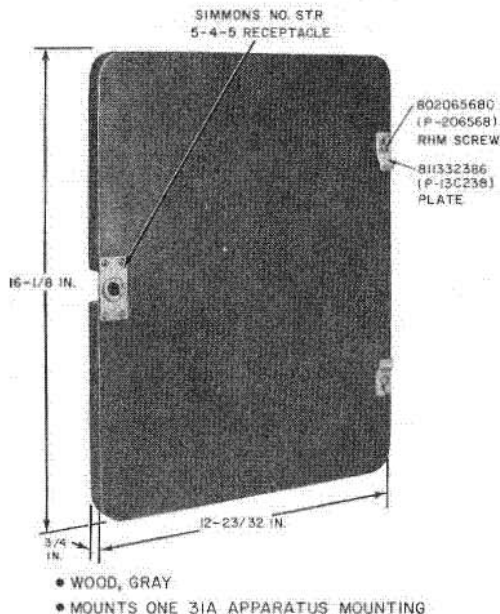

Fig. 21—173B Backboard
5.02 The 173B backboard (Fig. 21) is also finished in light olive gray and is designed to mount one 31A (MD) apparatus mounting.